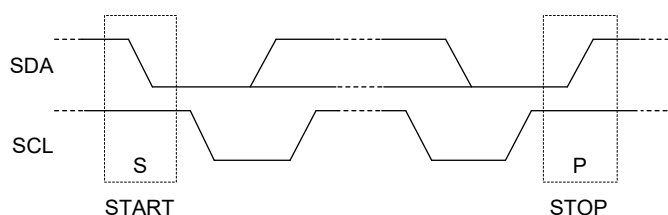

Figure 14. I²C Bus in START and STOP Conditions
When the bus is free (idle) both SDA and SCL remain high. A START (S) condition is sent by master at the beginning of a transaction with a high-to-low transition on the SDA line while the SCL is high and all slaves will detect that. Similarly, one (or more) STOP (P) condition is sent by master with a low-to-high transition of the SDA line while the SCL is high to terminate the transaction and release the bus (see Figure 14). It is recommended to initiate the bus by sending a STOP condition after power-up. The master may not release the bus after a complete transaction with the slave and send a repeated START (Sr) to initiate a new data exchange with the slave.